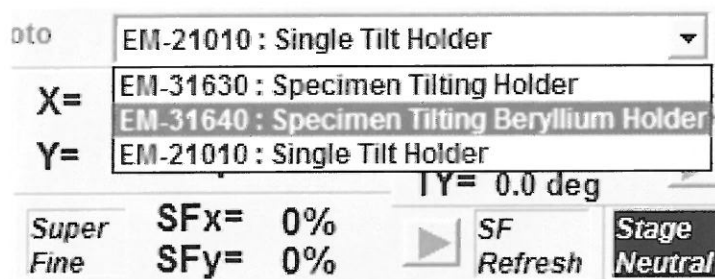

Fig. 5.8 Holder Select window
5. Click on the specimen holder selection combo box at the right main window of the TEM Controller and select the holder name to use from the list (Fig. 5.8).